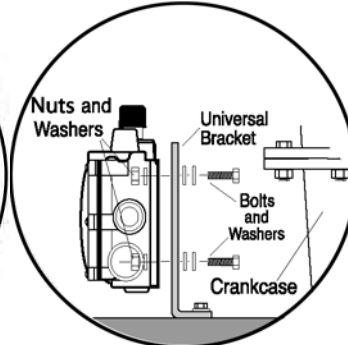

Figure 3B
2. Mount the LM500 to the universal bracket using four 1/4-20 UNC x 1-1/4 inch (32mm) bolts; flat and lock washers supplied (Figure 3B). DO NOT tighten the adjustment screws too tight as you will have to adjust the LM500 later in the installation process. Refer to “Connecting Fittings and Hoses” for information regarding height adjustment of the LM500 in alignment with the oil level in the crankcase.